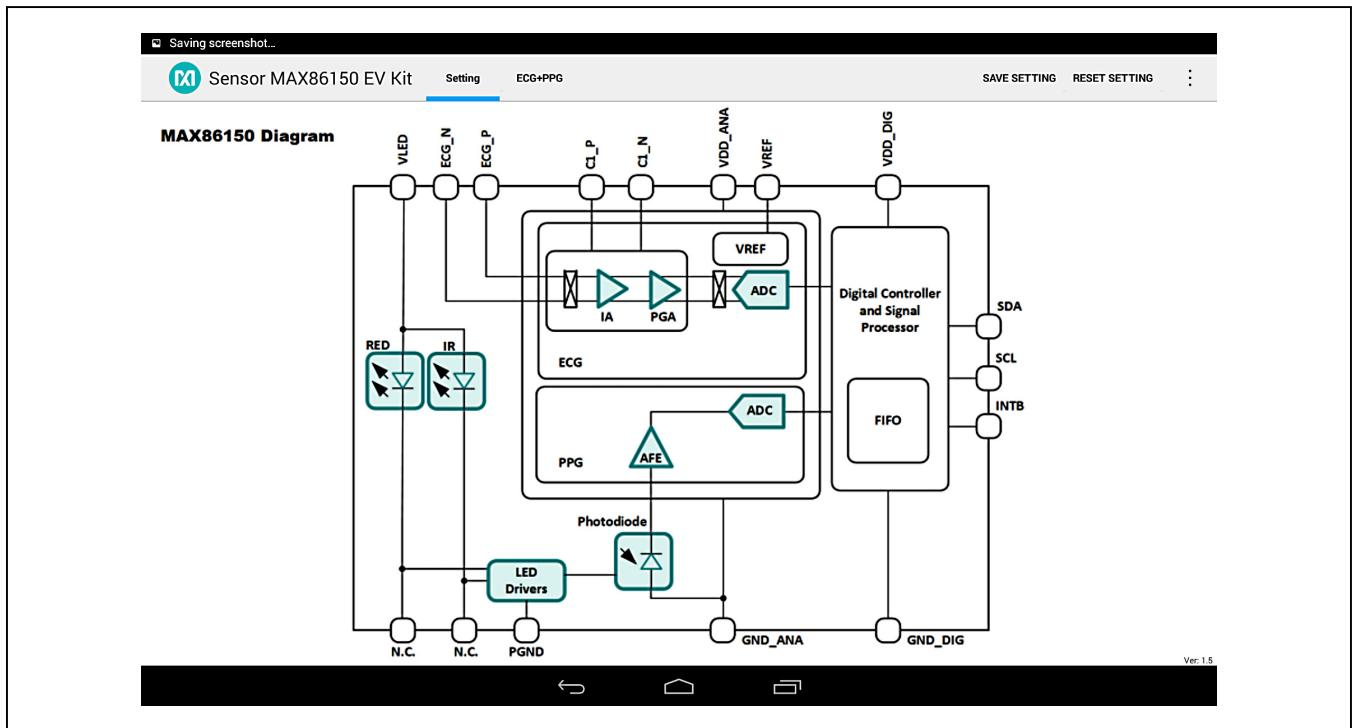

Figure 6. MAX86150 Block Diagram and Configuration Menu
- 7) After a bluetooth connection is successfully established, the main GUI will launch, as shown in Figure 6.